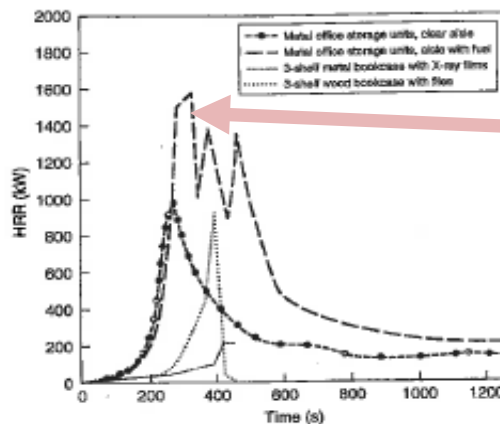

Figure 3-1.15. HRR of storage units.
- Based on SFPE data from Figure 3-1.15